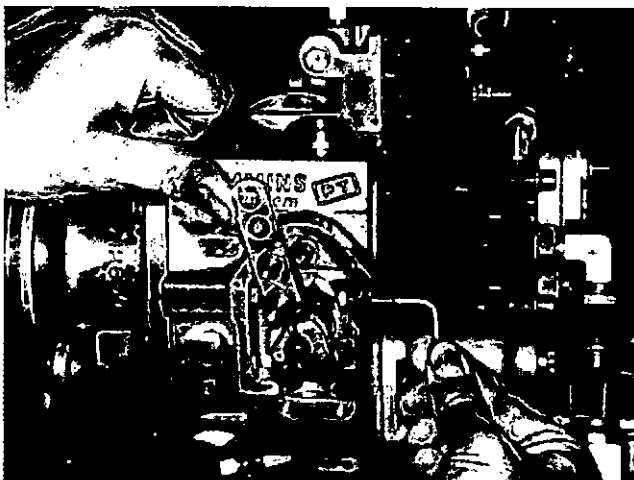

Fig. 10-18, (F5329). Set the throttle leakage.
5. The cc delivery must be the specification of the "Throttle Leakage" on line 10 of the calibration data. If not to specifications, turn the rear throttle stop screw in or out until the cc delivery meets the specifications. Fig. 10-18.